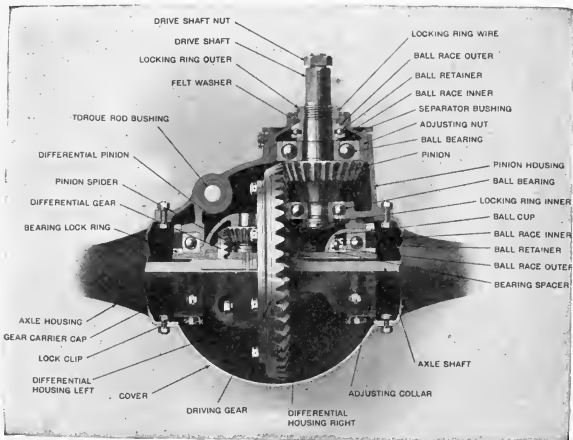

FIG. 87.—Jeffrey final drive.
48. Final Drive.—The final drive to the rear axle is accomplished by means of bevel, spiral-bevel, or worm gearing. The direction of the power transmission must be changed through a right angle at this point. Figure 87 shows the bevel gear final drive as used on the Jeffrey car. Both the bevel pinion and the differential housing which carries the driving gear or ring gear are carried by ball bearings. The action of the bevel gears